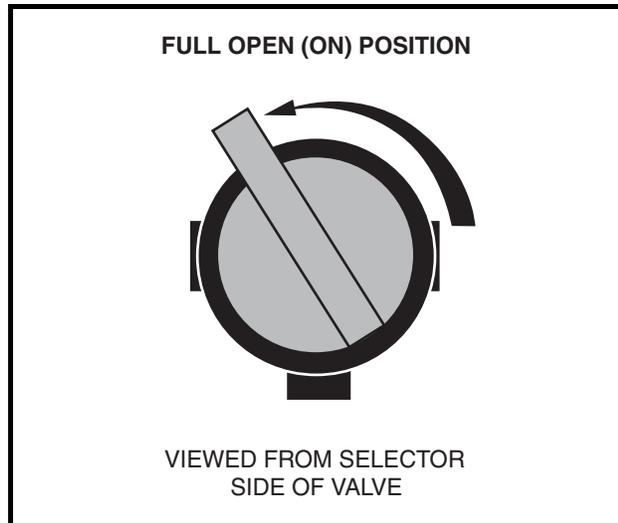
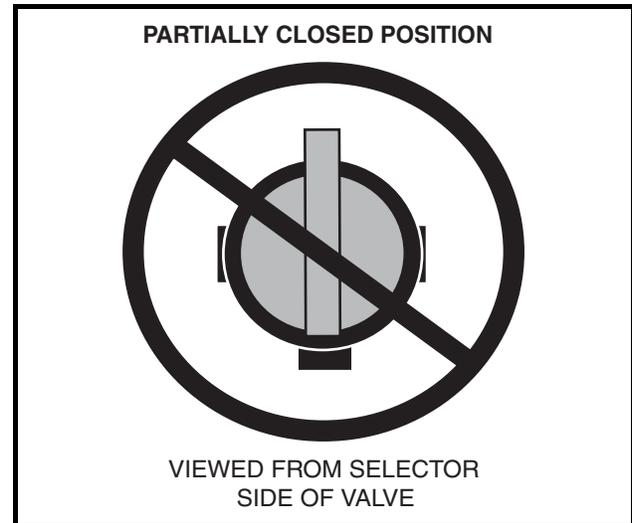

Figure 3-4 Fuel Shut-off Valve – Open Position
Figure 3-5 Incorrect Fuel Shut-off Valve Setting
- 2.1. Remove plug from the fuel tank vent nipple and connect fuel vent line to nipple. Open the fuel shut-off valve (**Figure 3-4, Page 3-4**). Make sure the valve is fully open. A partially closed fuel shut-off valve (**Figure 3-5, Page 3-4**) combined with the use of the choke can result in a fouled spark plug and engine failure.